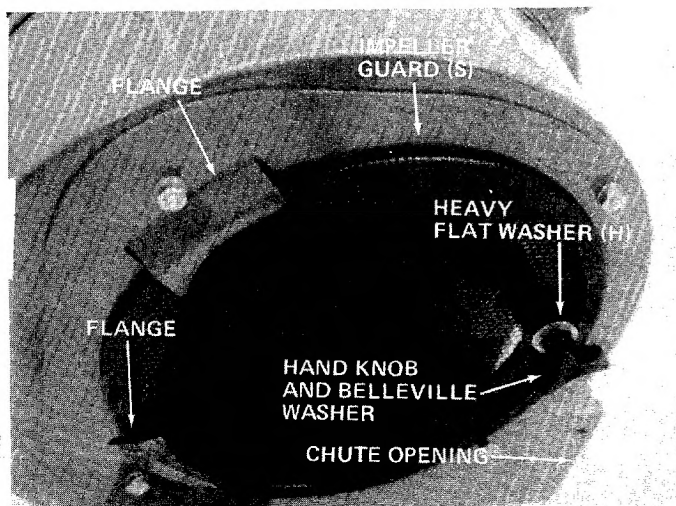

FIGURE 12.
5. Lift up on the housing and rotate it 90° clockwise. Chute opening should be to the right hand side when viewed from the front of unit. See figure 12.
6. Place the impeller guard (S) into flanges on front of housing. Line up hole in screen with hole on housing. Secure with one hand knob, belleville washer and heavy flat washer (H). See figure 12.